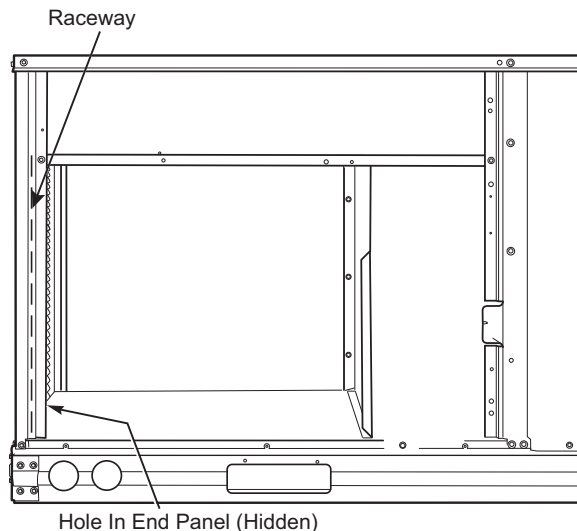

Fig. 29 — Field Control Wiring Raceway
Pass the thermostat control wires through the hole provided in the corner post, then feed the wires through the raceway built into the corner post to the control box. Pull the wires over to the terminal strip on the upper-left corner of the Unit Control Board. See Fig. 29.
2. Feed wires through the raceway built into the corner post (see Fig. 29) to the 24-v barrier located on the left side of the
2. Feed wires through the raceway built into the corner post (see Fig. 29) to the 24-v barrier located on the left side of the control box. The raceway provides the UL-required clearance between high-voltage and low-voltage wiring.